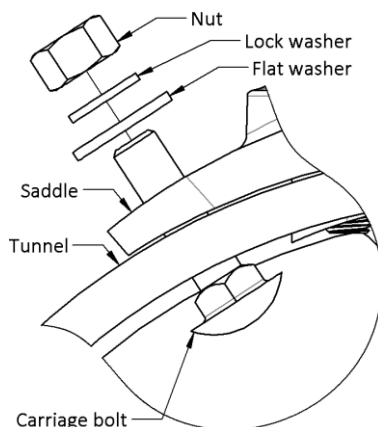

Figure 12 - Tube mounting hardware orientation.
1. Replace the tube onto the saddle and loosely refasten in six places. The heads of the carriage should be on the inside of the tunnel (see Figure 12 below).